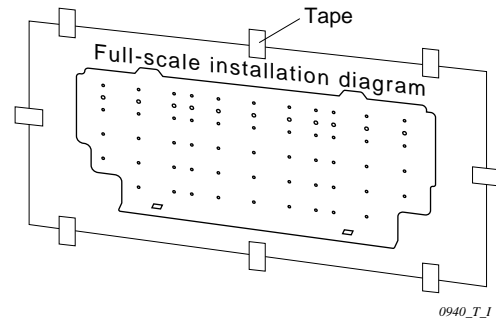

Fig. 3-20
- (1) Tape the full-scale installation diagram on the wall at the location selected. Make sure the unit is horizontal, using a level or tape measure to measure down from the ceiling. (Fig. 3-20)
- (2) Before drilling a hole, check that there are no studs or pipes behind the determined location.